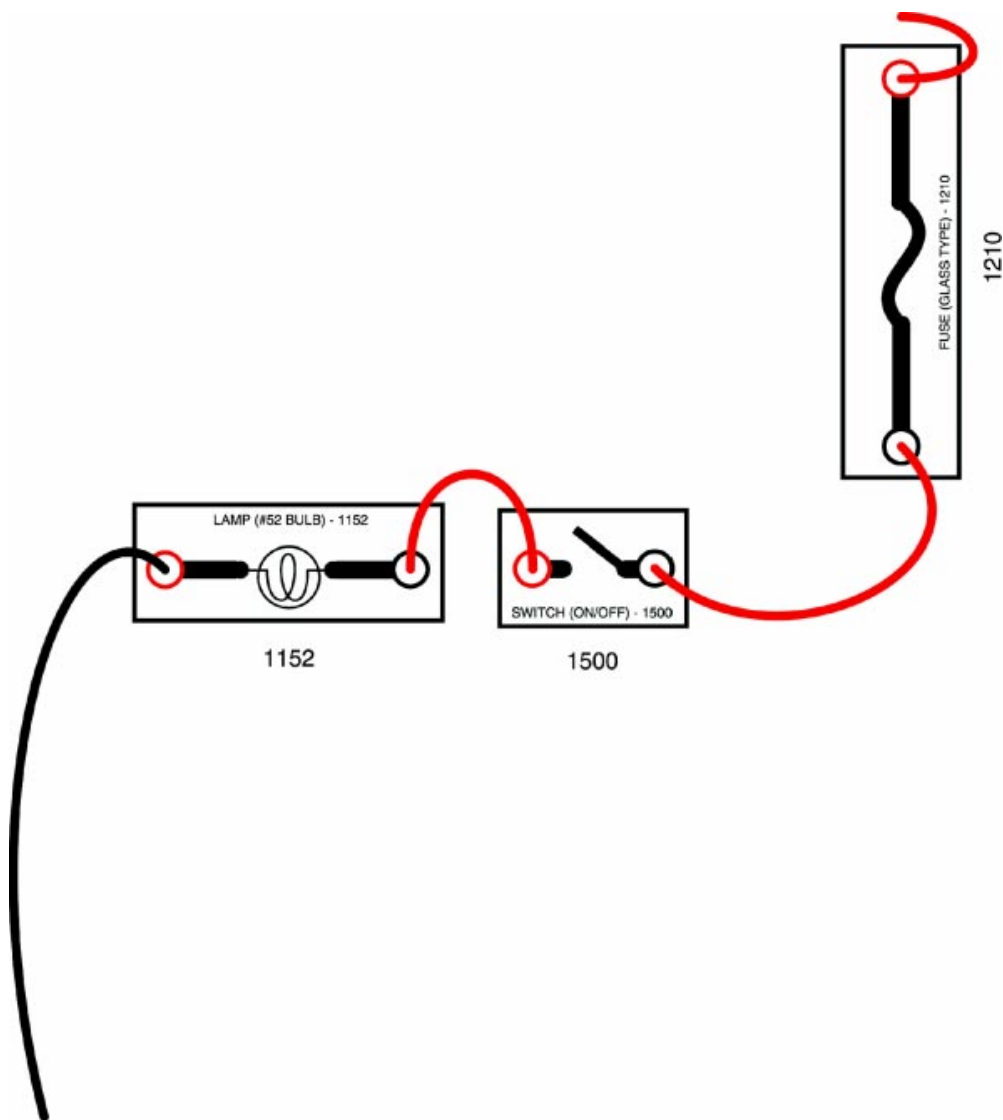

Fig. 1W2-1
1. Continue to use the circuit shown in Fig. 1W2-1.